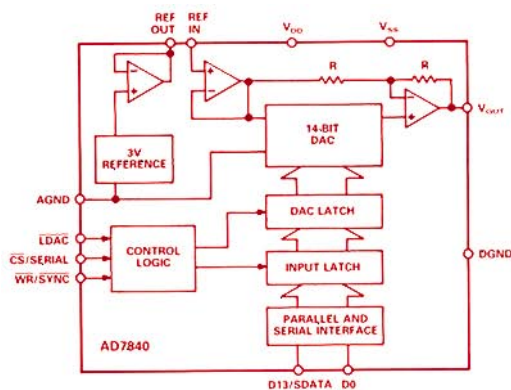

Figure 4. Functional block diagram of AD7840 DAC.
**The AD7840 14-bit voltage-output DAC** (Figure 4) has both serial and parallel interfaces, an internal 3-volt reference, output amplifier, and double-buffered data latches. Fabricated with the same process as the AD7871 and AD7872 ADCs, it too is fully specified for dynamic as well as dc performance. Data setup time and write pulse-width for the *parallel* interface are 21 and 45 ns, compatible with high-speed  $\mu\text{Ps}$ . The *serial*-data clock- and bit-transfer rates can be as great as 6 MHz.